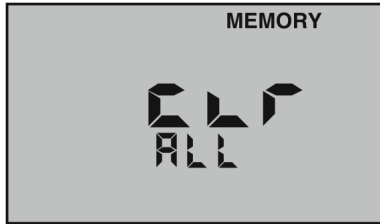

Figure 10
6. To clear **all** records: After pressing , scroll down. “**CLR ALL**” will be displayed (see Figure 10).